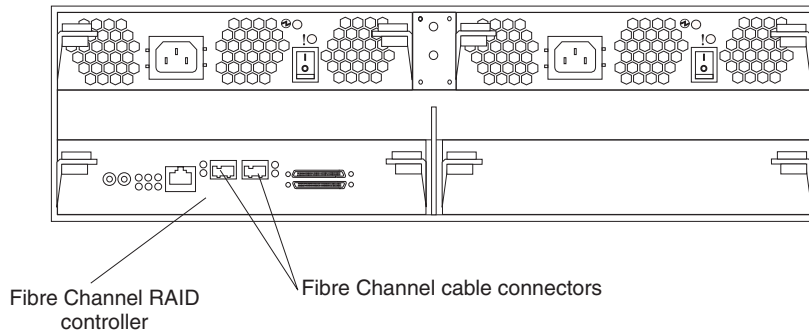

Figure 23. Host-system cable connectors
2. Connect the host-system cables to the RAID controller or to switches. Figure 23 shows the location on the RAID controllers where the host-system cables are connected.